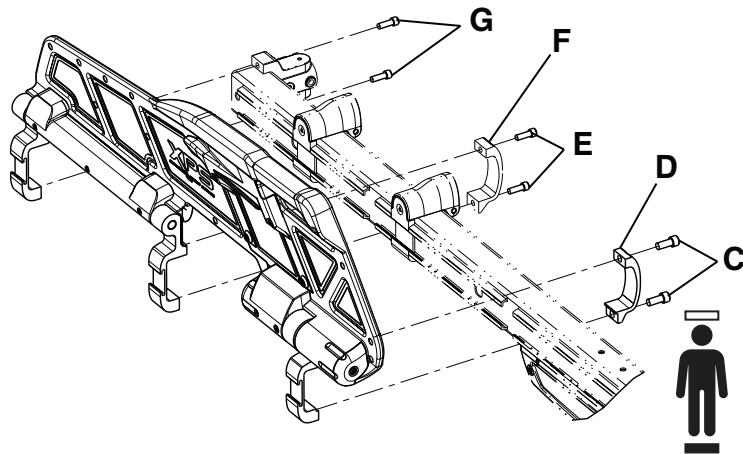

Figure 9 – Remove the siderail assembly
5. Using a 1/4" hex wrench, remove the socket head cap screws (C) that secure the siderail clamp (D) to the ratchet assembly at the foot end of the main assembly (Figure 9). When you reinstall, use a torque wrench to torque both new screws to 22 ± 3.3 ft-lb.
6. Using a 3/16" hex wrench, remove the two socket head cap screws (E) that secure the middle siderail clamp (F) to the outer rail assembly (Figure 9).
7. Using a 3/16" hex wrench, remove the two socket head cap screws (G) that secure the top and bottom of the base/litter interface bracket to the outer rail assembly (Figure 9).